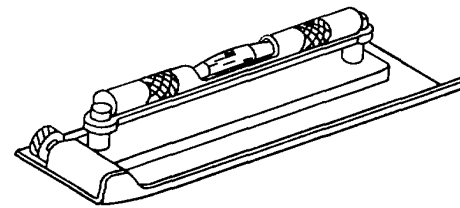

Figure 3-2. Machinist's Level
(2) *Machinist's level.* The machinist's level, shown in figure 3-2, has an extra large vial. This increases its accuracy and sensitivity. Some of these levels have grooved bottoms which fit over pipes and shafts. They are used in machine shops for leveling work and equipment.